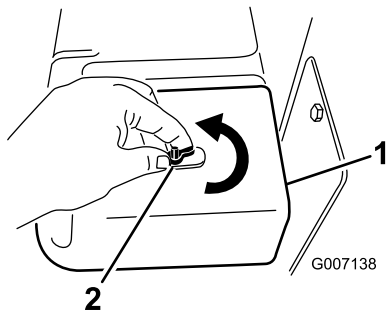

Figure 49
4. Remove the wingnut from the air cleaner cover and remove the cover (Figure 49).
3. Install the air cleaner cover and secure it with the wingnut (Figure 49).